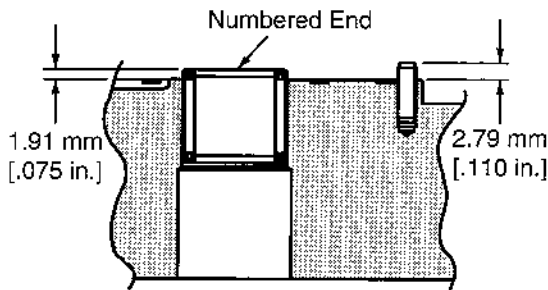

Figure 1-3
- Check the bearing (press fit) in backplate. If needles remain in cage, move freely, and setting is at the dimension shown in figure 1-3, removal not required.
- Check roll pin in backplate. If tight and set to the dimension shown in figure 1-3, removal not required.
- 10** If necessary, press new bearing and roll pin in backplate to dimension shown in figure 1-3. Bearing installed with the numbered end outward. Roll pin installed with split oriented away from bearing.